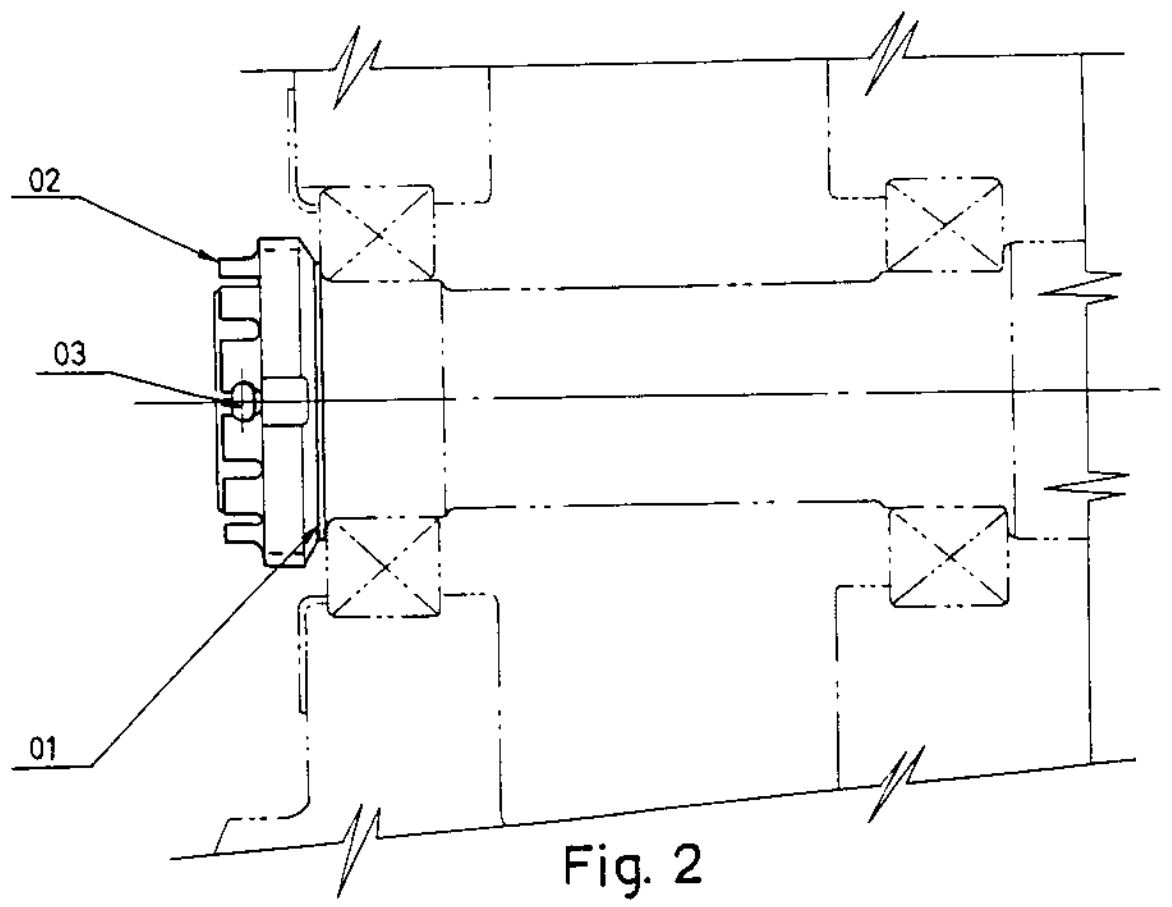

Fig. 2
Fit wheel, washer item 01, nut item 02 and split pin item 03 according to figure 2.